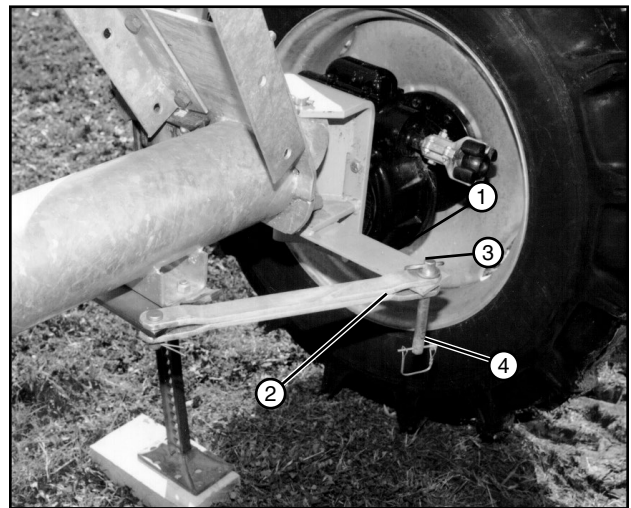

Figure 79-2 1. Steering Arm 2. Tow Link Bar Yoke 3. Torque Pin 4. Lynch Pin
2. Position steering arm in tow link bar yoke, align holes, then attach steering arm to tow link bar with torque pin. Secure torque pin with lynch pin. See figure 79-2.